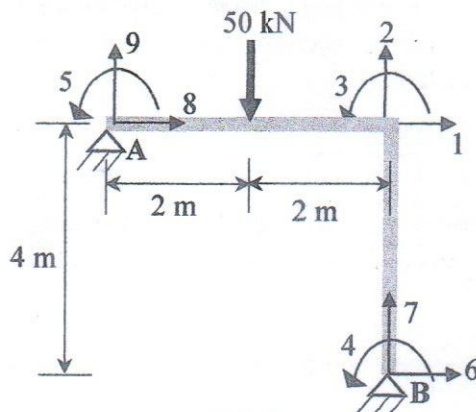

Fig.8
8. Determine the structure stiffness matrix (global) and support reactions at pin support A for the frame shown in Fig.8 according to the degree of freedom indicated in the figure. Take $E = 200 \text{ GPa}$, $I = 350(10^6) \text{ mm}^4$, $A = 15(10^3) \text{ mm}^2$ for both members. (25)